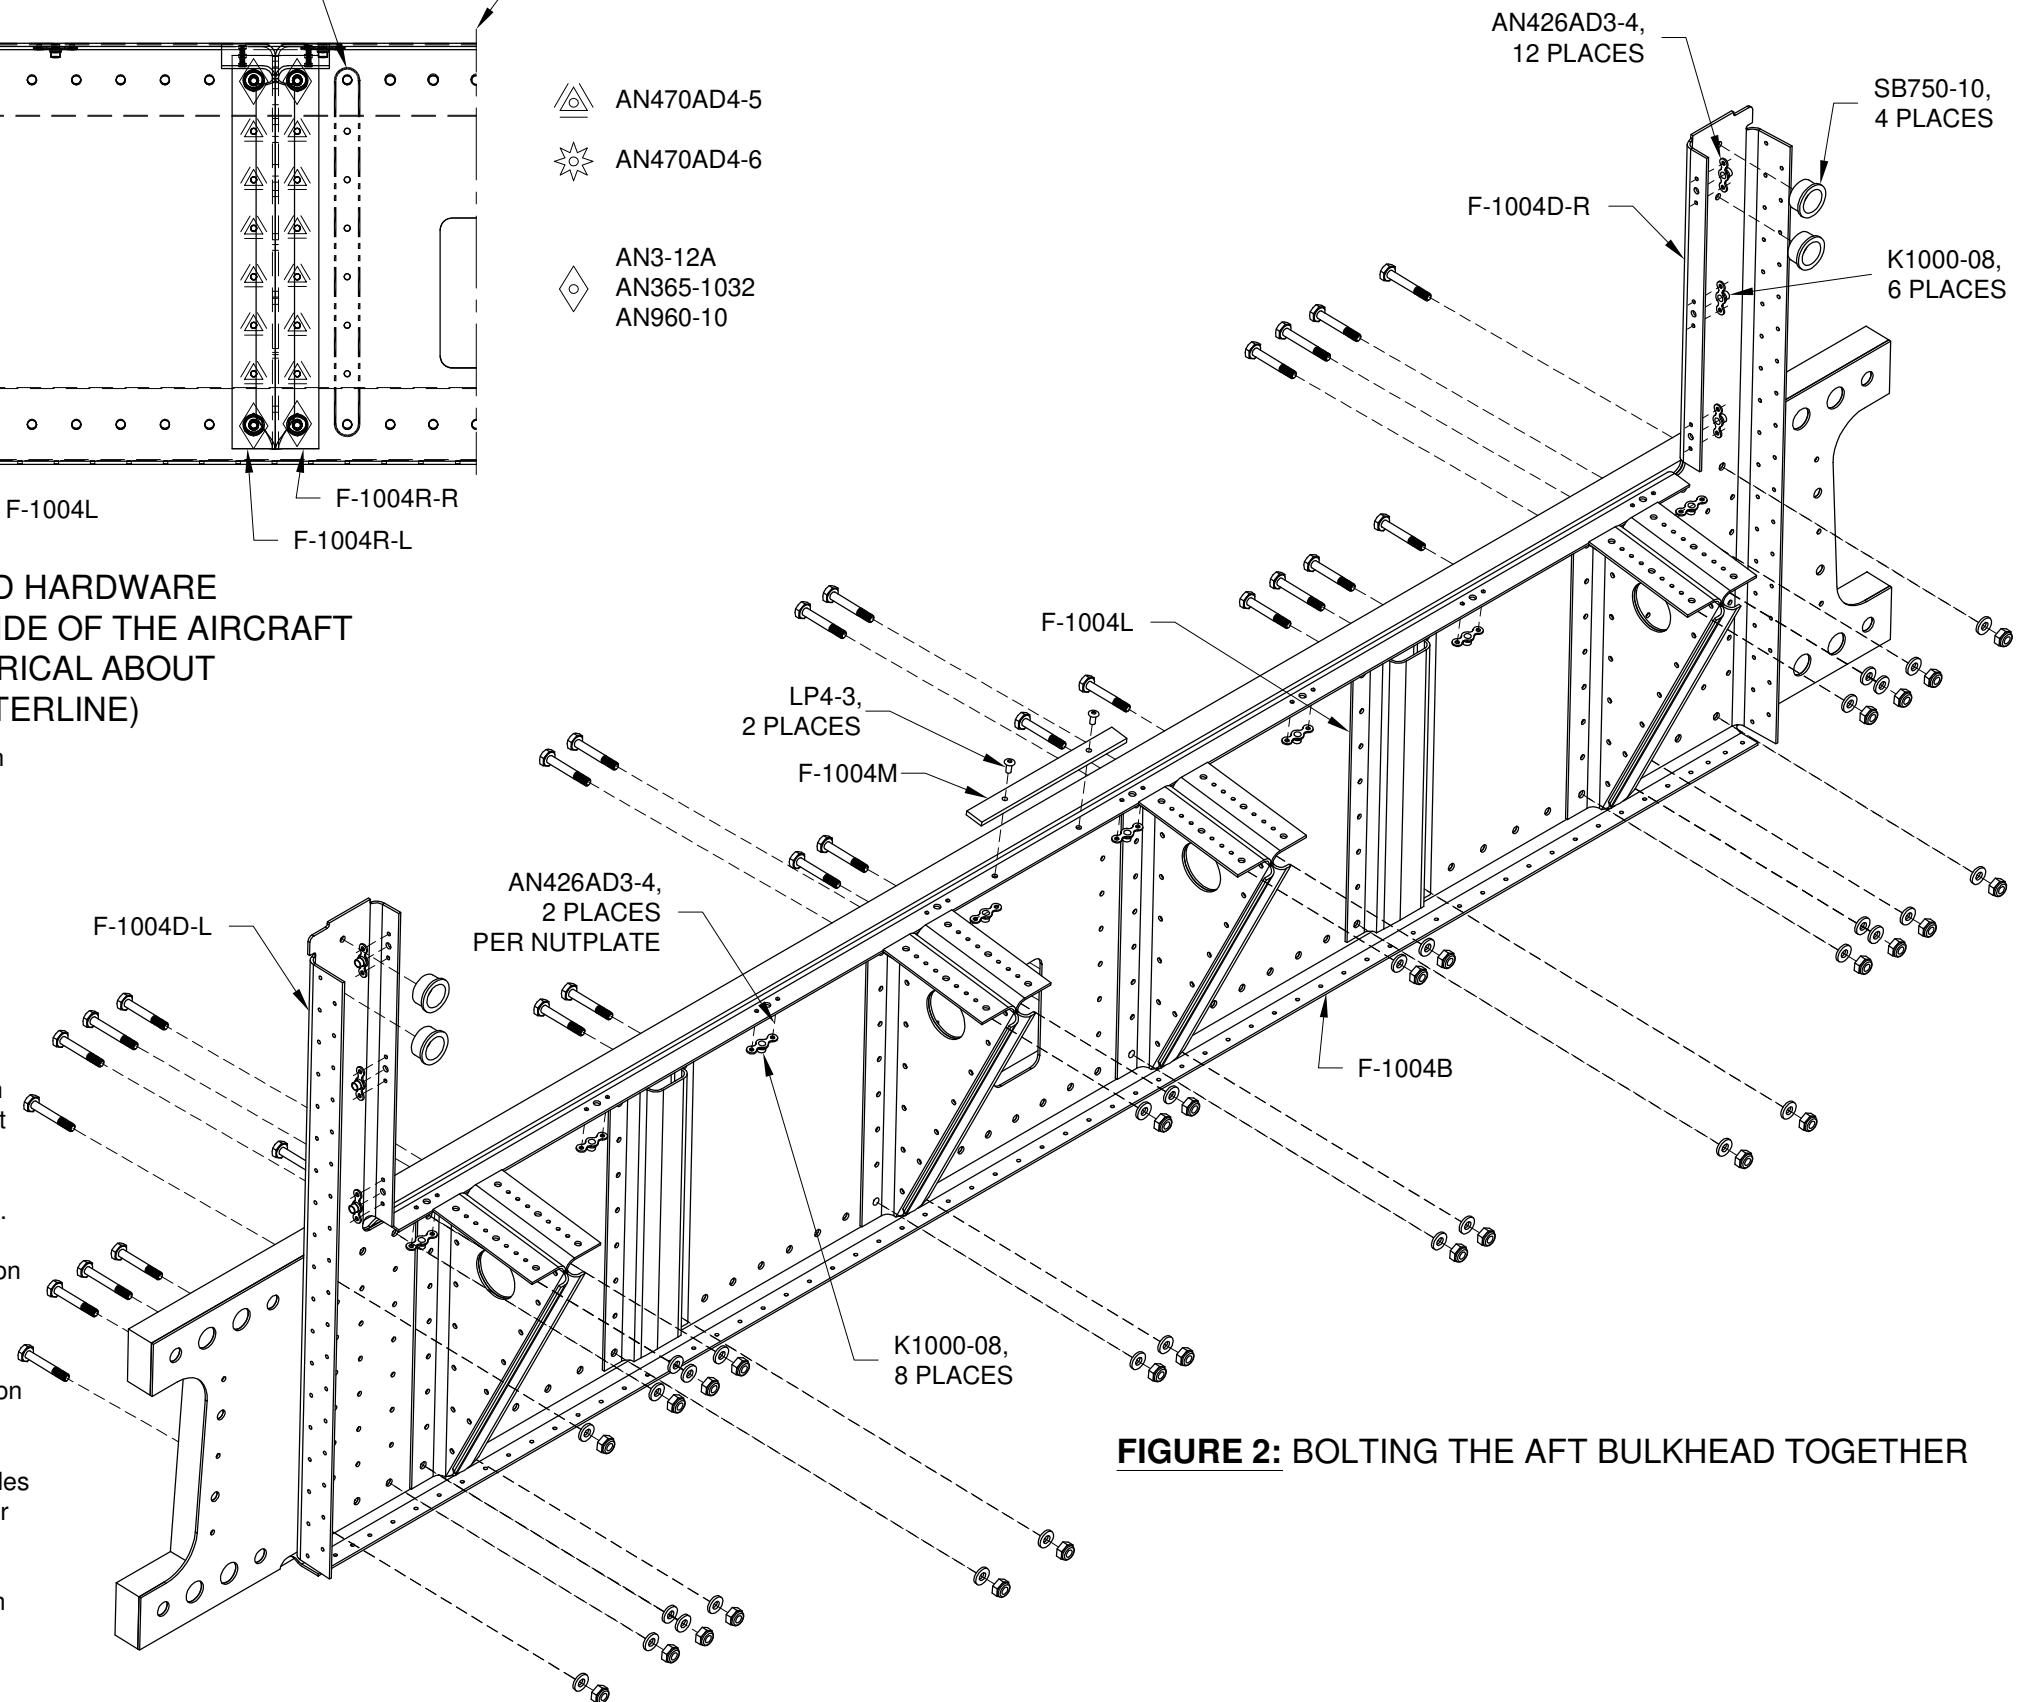
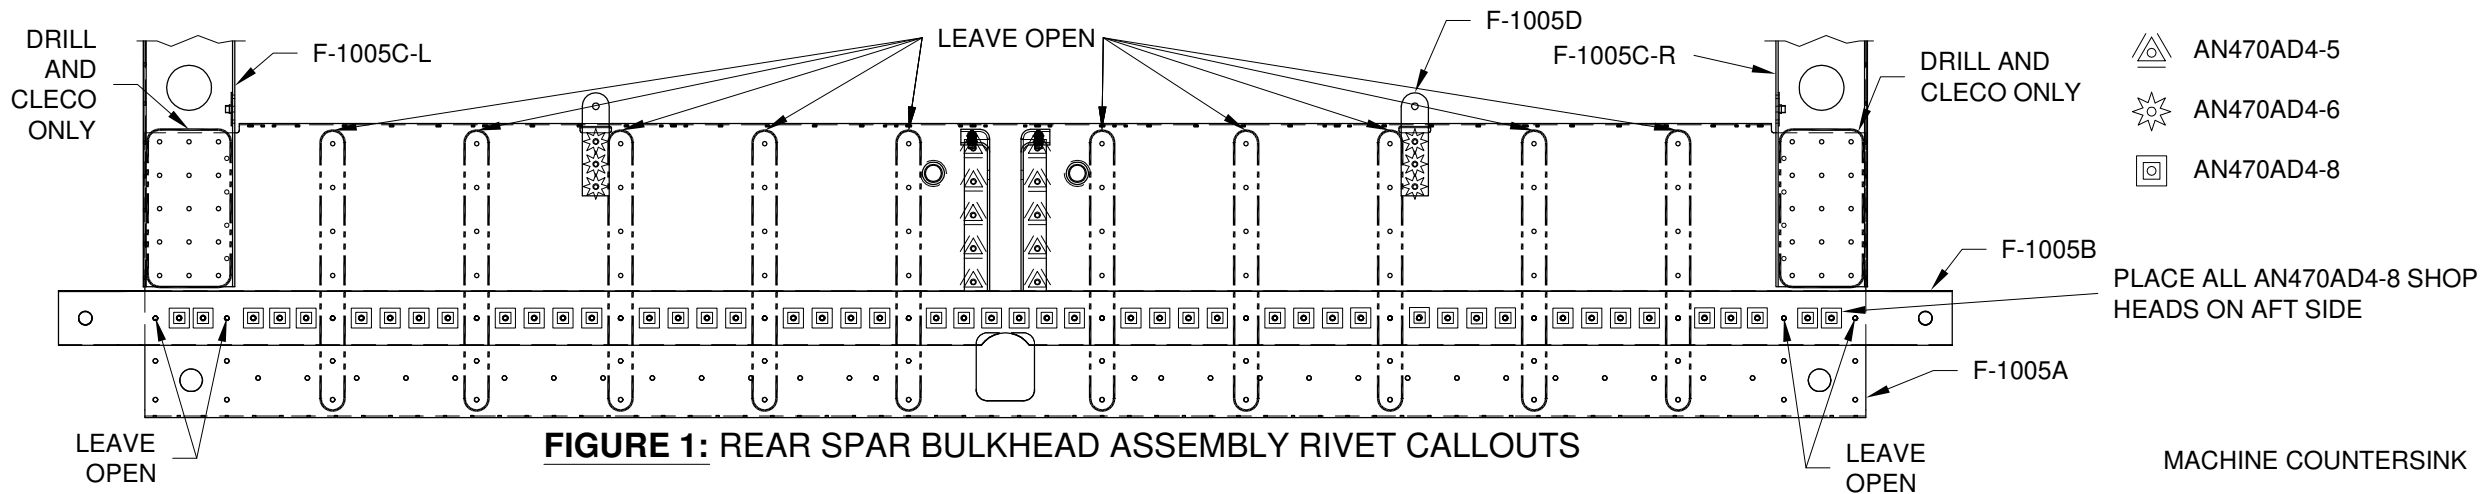

FIGURE 2: BOLTING THE AFT BULKHEAD TOGETHER
FIGURE 1: REAR SPAR BULKHEAD ASSEMBLY RIVET CALLOUTS
Step 7: Rivet the F-1004M Wear Strip to the upper flange of the F-1004B Center Section Bulkhead as shown in Figure 2.
Step 1: Final-Drill #40 all the nutplate attach holes and #19 all the nutplate screw holes in the F-1005A Rear Spar Bulkhead, F-1005C-L and -R Bulkhead Side Channel and F-1063B-L and -R Idler Arm Brackets as shown in Figure 2.
Step 2: Cleco the F-1005B Rear Spar Attach Bars, F-1005C-L and -R Bulkhead Side Channels, F-1005D Crotch Strap Lugs, F-1005E-L and -R Gussets and F-1063B-L and -R Idler Arm Brackets to the F-1005A Rear Spar Bulkhead, as shown in Figure 2. Using Figure 1 as a guide tape over or mark the holes to be left open. Final-Drill #30 the remaining holes common between the parts just clecoed together.